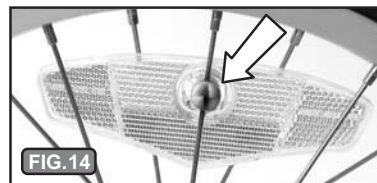

FIG. 14
A) Reflectors should be mounted 90 degrees from the valve stem, Fig. 13. The reflectors should be installed by weaving them through the spokes. The reflectors attach to the spoke with the white slotted attachment "screw", Fig. 14. Remove attaching screw from reflector. Place reflector in position between wheel spokes and centered on a spoke approximately 90 degrees from valve stem.
B) Install screw, Fig. 14, over spoke and into receiving hole of reflector. Using a screwdriver, turn screw 90 degrees clockwise to lock reflector in position. Repeat the above steps for the second reflector to be installed opposite the position of the first reflector. This reflector configuration will keep the trailer wheel balanced and vibration free.